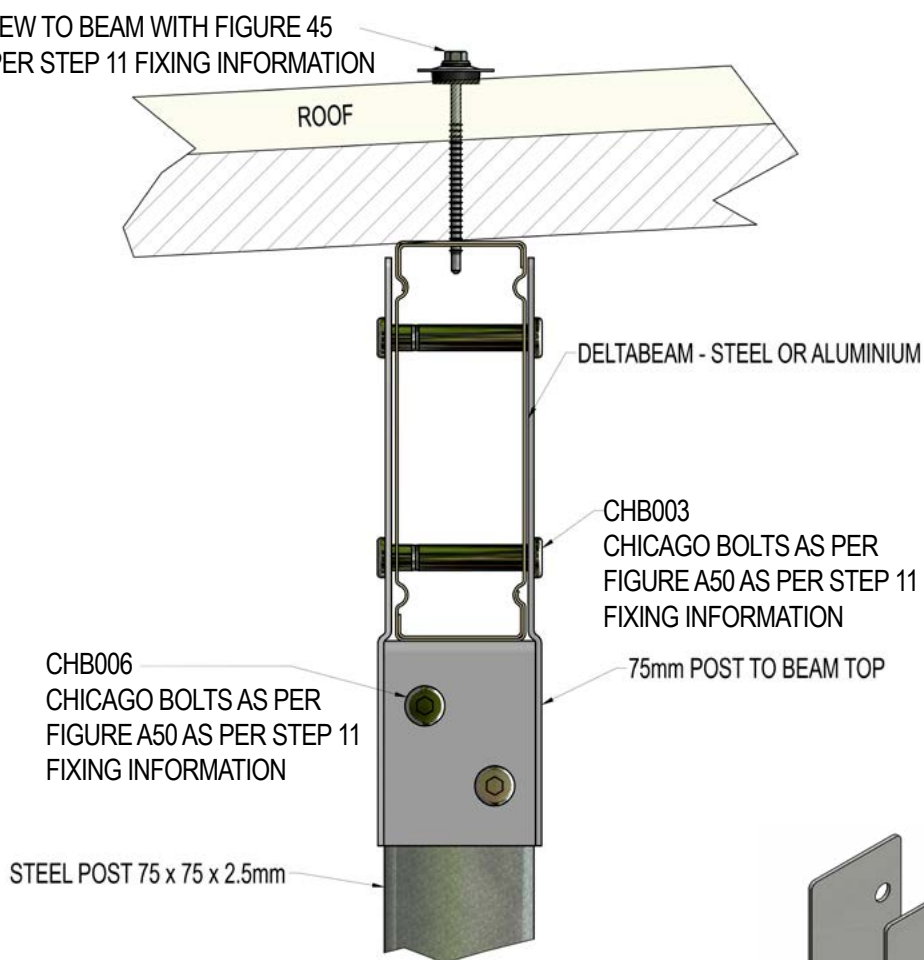

Figure A25
STEP 8**SELECT BEAM TO POST CONNECTION TYPE****Delta™ Steel or Aluminium Beam to Post (see Figure A25)**